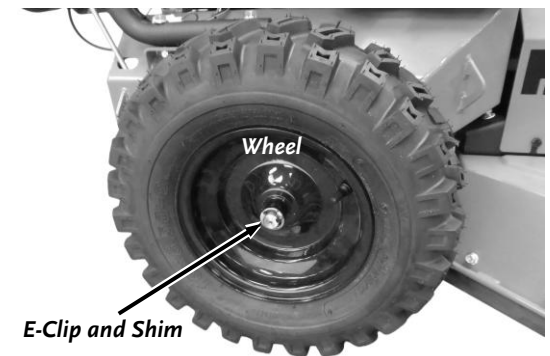

Figure 43
2. Wear eye protection as you remove the E-Clip and Shim from the Axle (**Figure 43**). Slide the Wheel off the Axle ensuring that the Square Key stays in the Axle Key slot.